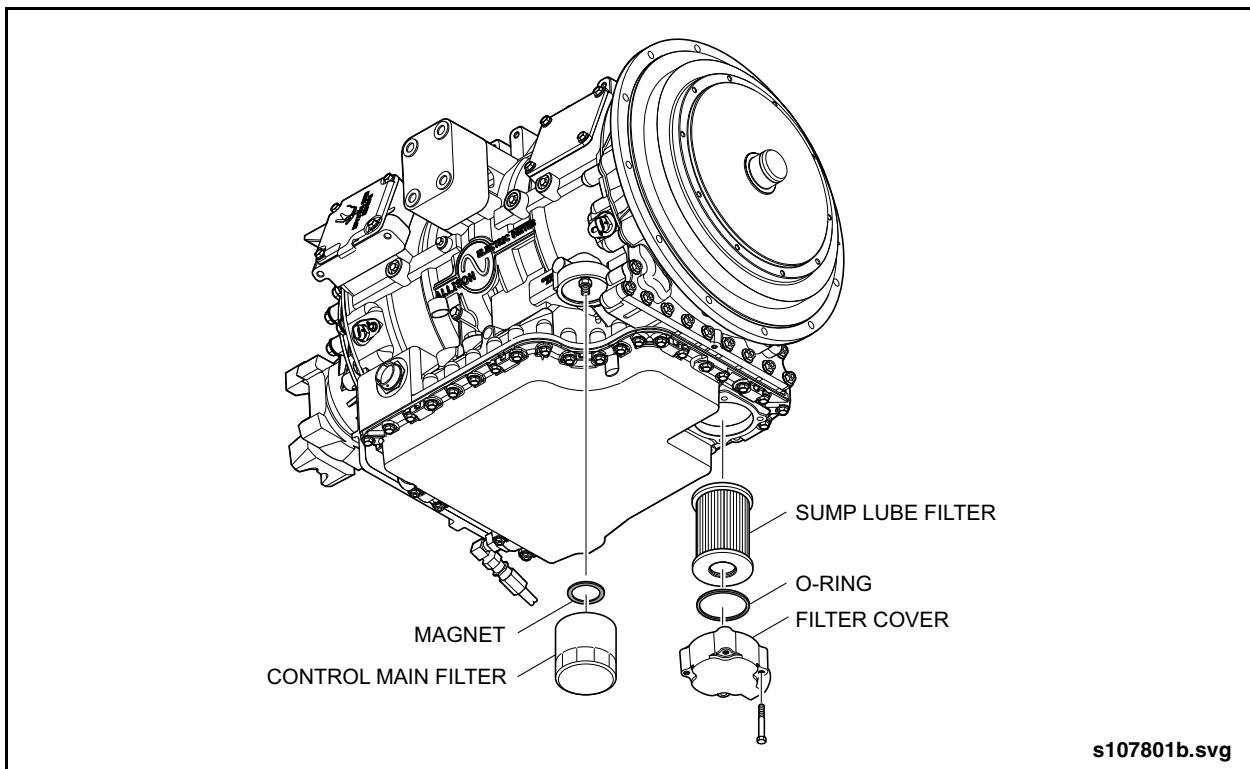

Fig. PM-41: Drive Unit Oil Filters
3. Remove the spin-on Control Main Filter using a filter wrench. Drain filter into a suitable container. See "Fig. PM-41: Drive Unit Oil Filters" on page 85.